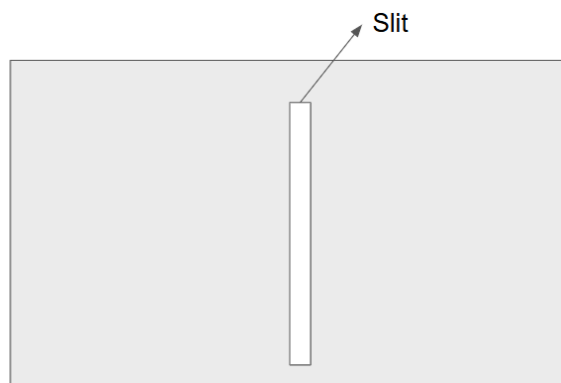

Figure 6.2. Experimental setup for single slit
2. Using a razor blade, carefully cut a narrow (approx. 1mm) vertical slit in the center (see Figure 6.2).